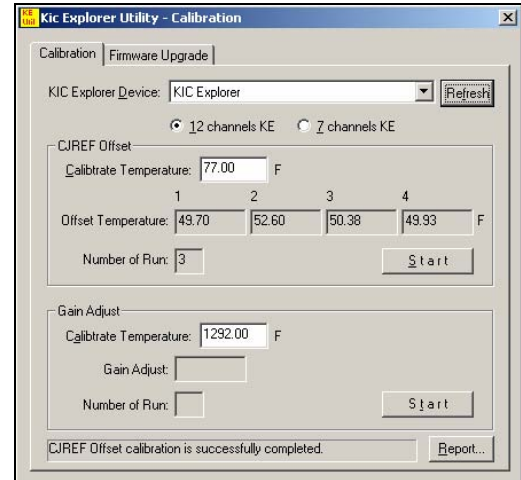

Figure 171
2. When both the *Calibration Temperature* field and the thermocouple simulator output values match, select the Gain Adjust-Start button to begin the *KIC Explorer* calibration. See Figure 171.